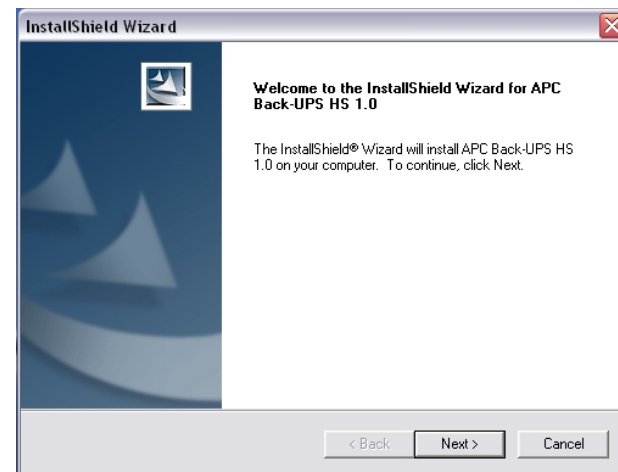

Figure 2. InstallShield Welcome Screen
3. After about 4 seconds, the software will display the **Welcome Screen** (Figure 2). To continue, click **Next**. To cancel the installation, click **Cancel**.